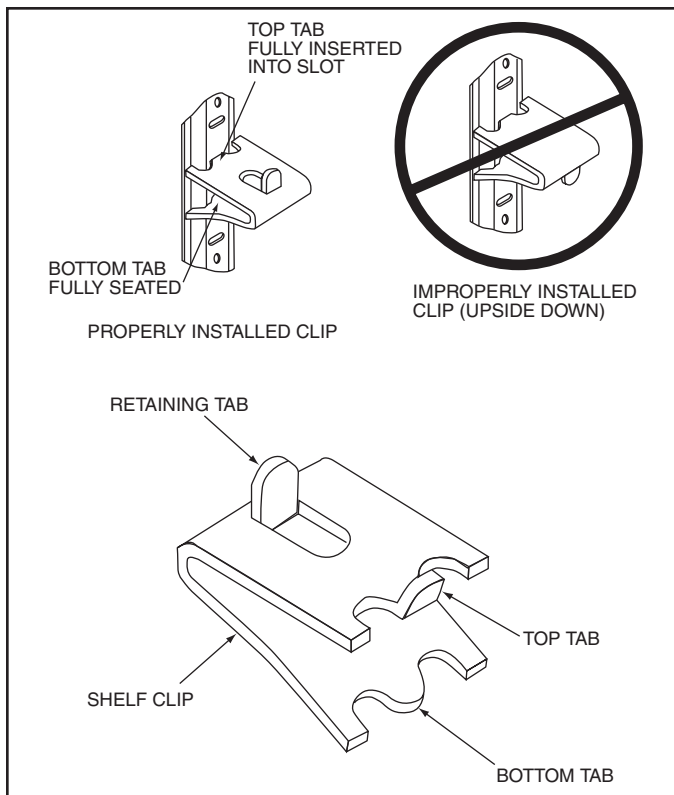

Figure 1. Shelf clip installation.
2. Insert the top tab of the shelf clip into the desired hole of the pilaster. The retaining tab should be facing upward, as shown in Figure 1.
7. Before loading the shelf, ensure that the shelf is resting on each of the four clips and that the clips are installed as shown in Figures 1 and 2 (*on next page*).